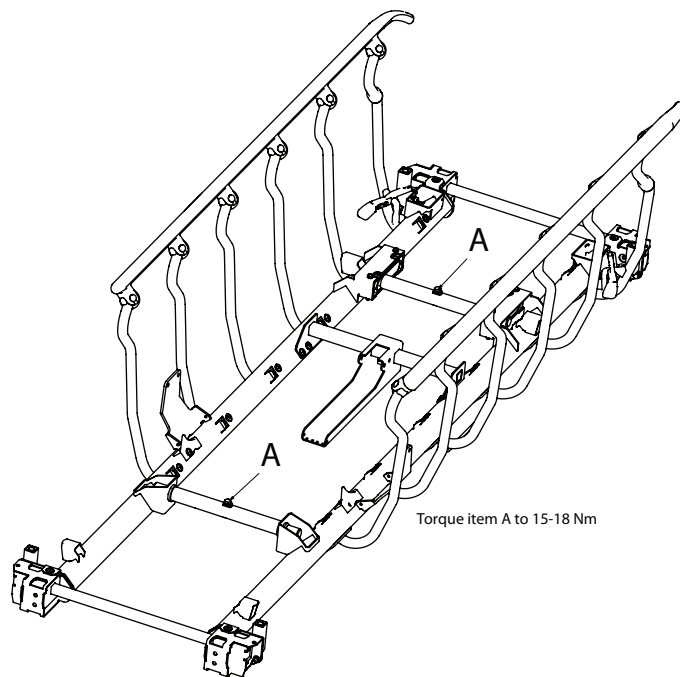

Figure 14 – Litter top removal, ST1-X
4. At the head end and foot end of the product use a 13 mm socket wrench with a 3/8" drive extension and a 3/8" drive ratchet to remove the two hex head bolts (A) that secure the jack support tubes to the jack shafts (Figure 14).